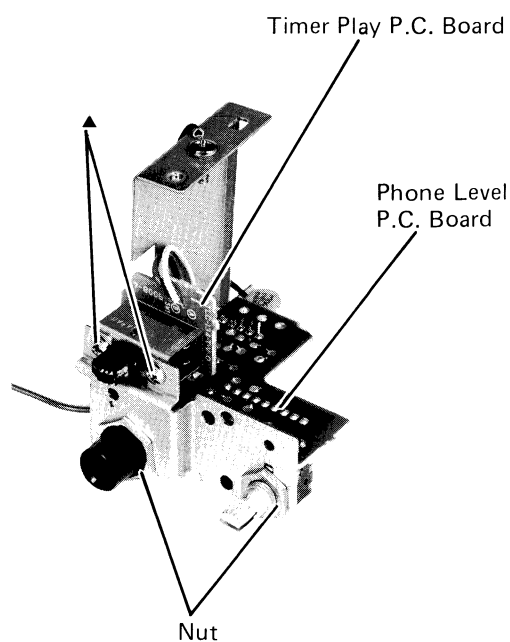

Figure 9
- (2) Remove two nuts as shown in Figure 9.
- (3) Thereby remove the Phone Level P.C. Board.
- (4) Remove two screws marked "▲" as shown in Figure 9.
- (5) Thereby remove the Timer Play P.C. Board.